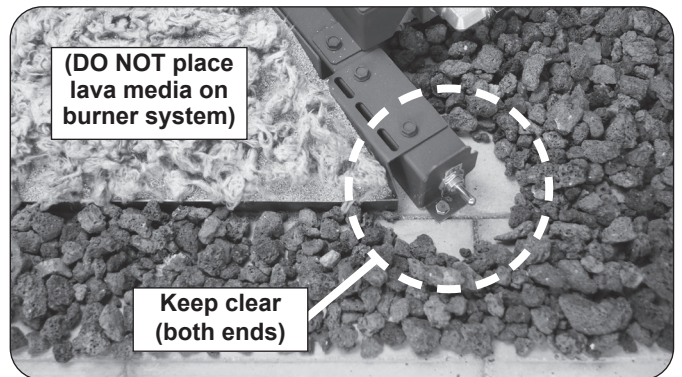

Fig. 20-2 Lava media placement detail
- **DO NOT place any lava media on the burner system, behind it, or under a knob/igniter/switch if one exists (at the ends of the burner). See Fig. 20-2.**